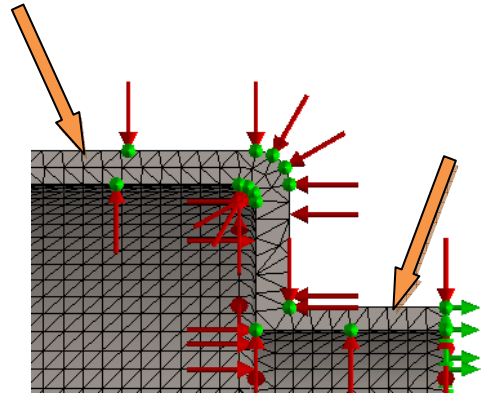

Figure 8 – Mesh elements
6. Verify that you have two elements span the thick-wall portion of the model, and only one element spans the thickness in the pipe connector neck as shown in Fig. 8. If not adjust the slider in step 7 until you get the correct elements.